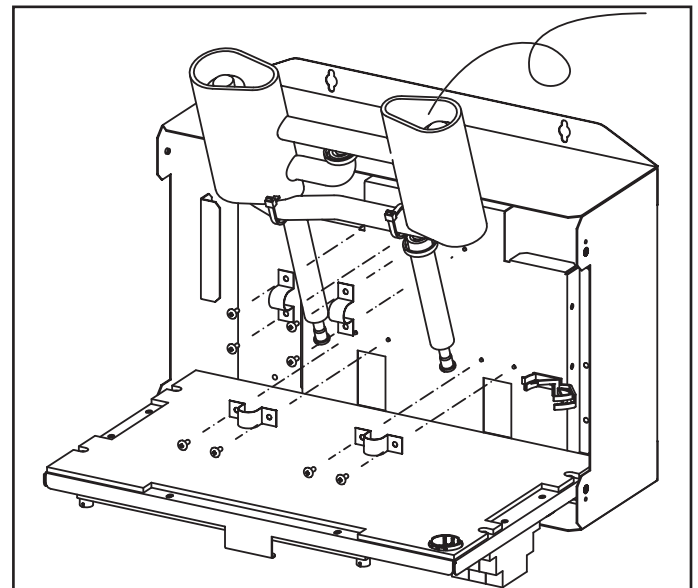

Figure 13. Remove EXV
3. Flip the electrical control board assembly forward 90° to expose the EXV. See Figure 13.
4. Remove eight (8) screws and four (4) brackets that secure the EXV in the box. See Figure 13.